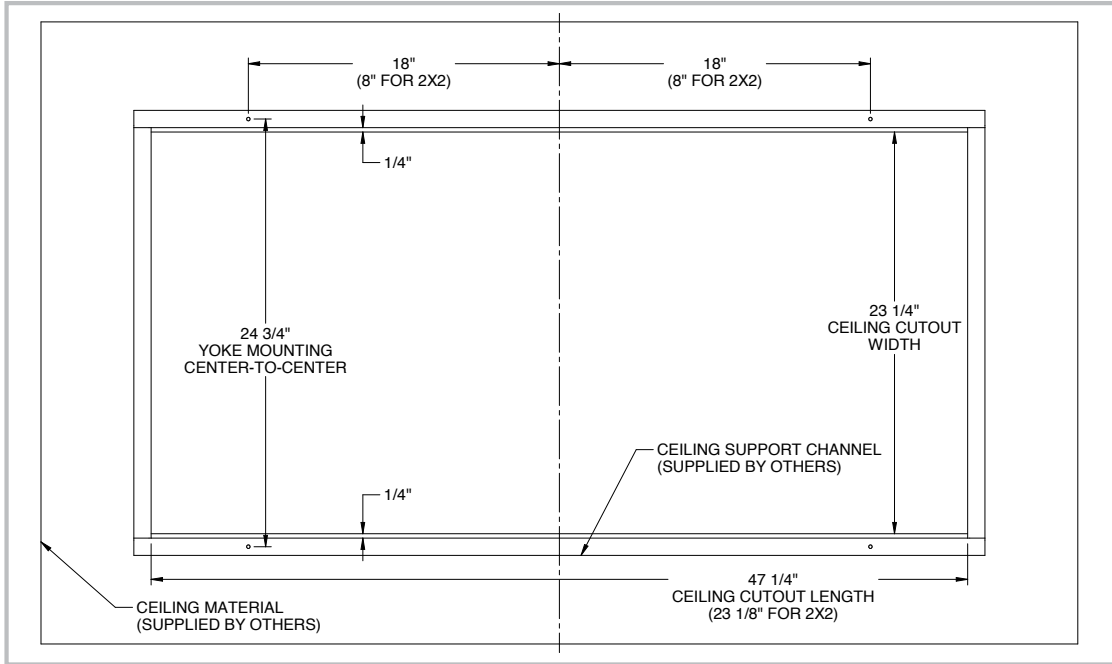

Figure 1: Recommended Ceiling Cutout and Support Channel Preparation
2. Install rigid framing (i.e. C-channel) around the cut opening. Align the vertical edge of the end channels flush with the cut opening. Position the longer side channels 1/4" from the cut opening as shown in **Figure 1**. Secure the ceiling material to the bottom surface of the frame. Support the rigid frame from the building structure.
3. Prepare mounting holes in the framing channel according to **Figure 1**.